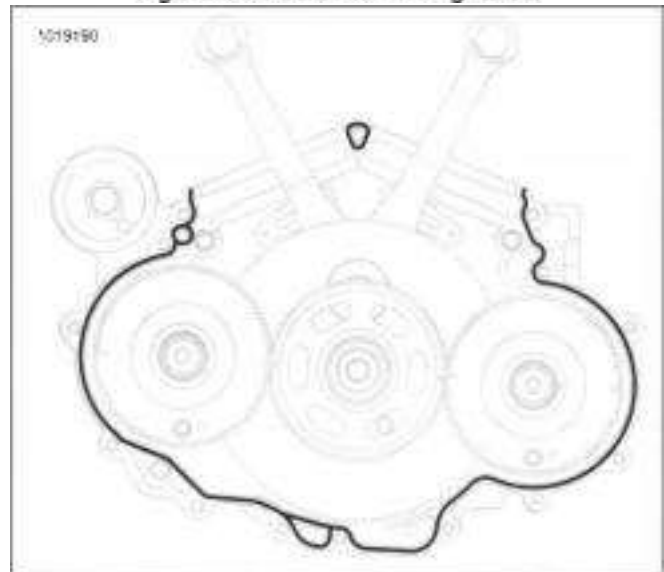

Figure 4-64. Sealant
- b. See Figure 4-64. Apply a bead of sealant to specification to the split line face of right crankcase half.